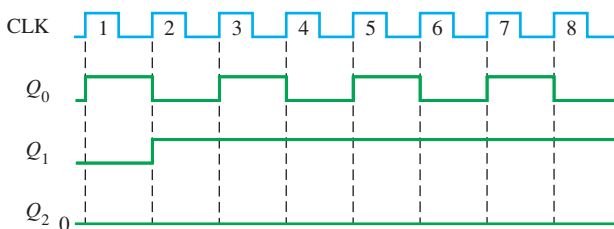

FIGURE 9-79
39. Isolate the fault in the counter in Figure 9-6 by analyzing the waveforms in Figure 9-79.